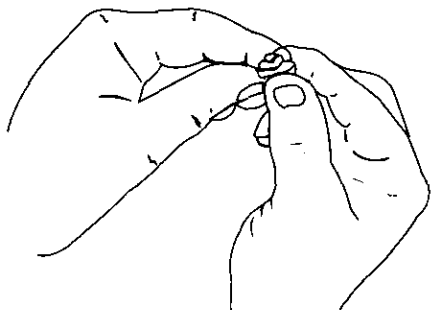

Fig. 21
6. Squeeze the filter to spread the oil (Fig. 21).